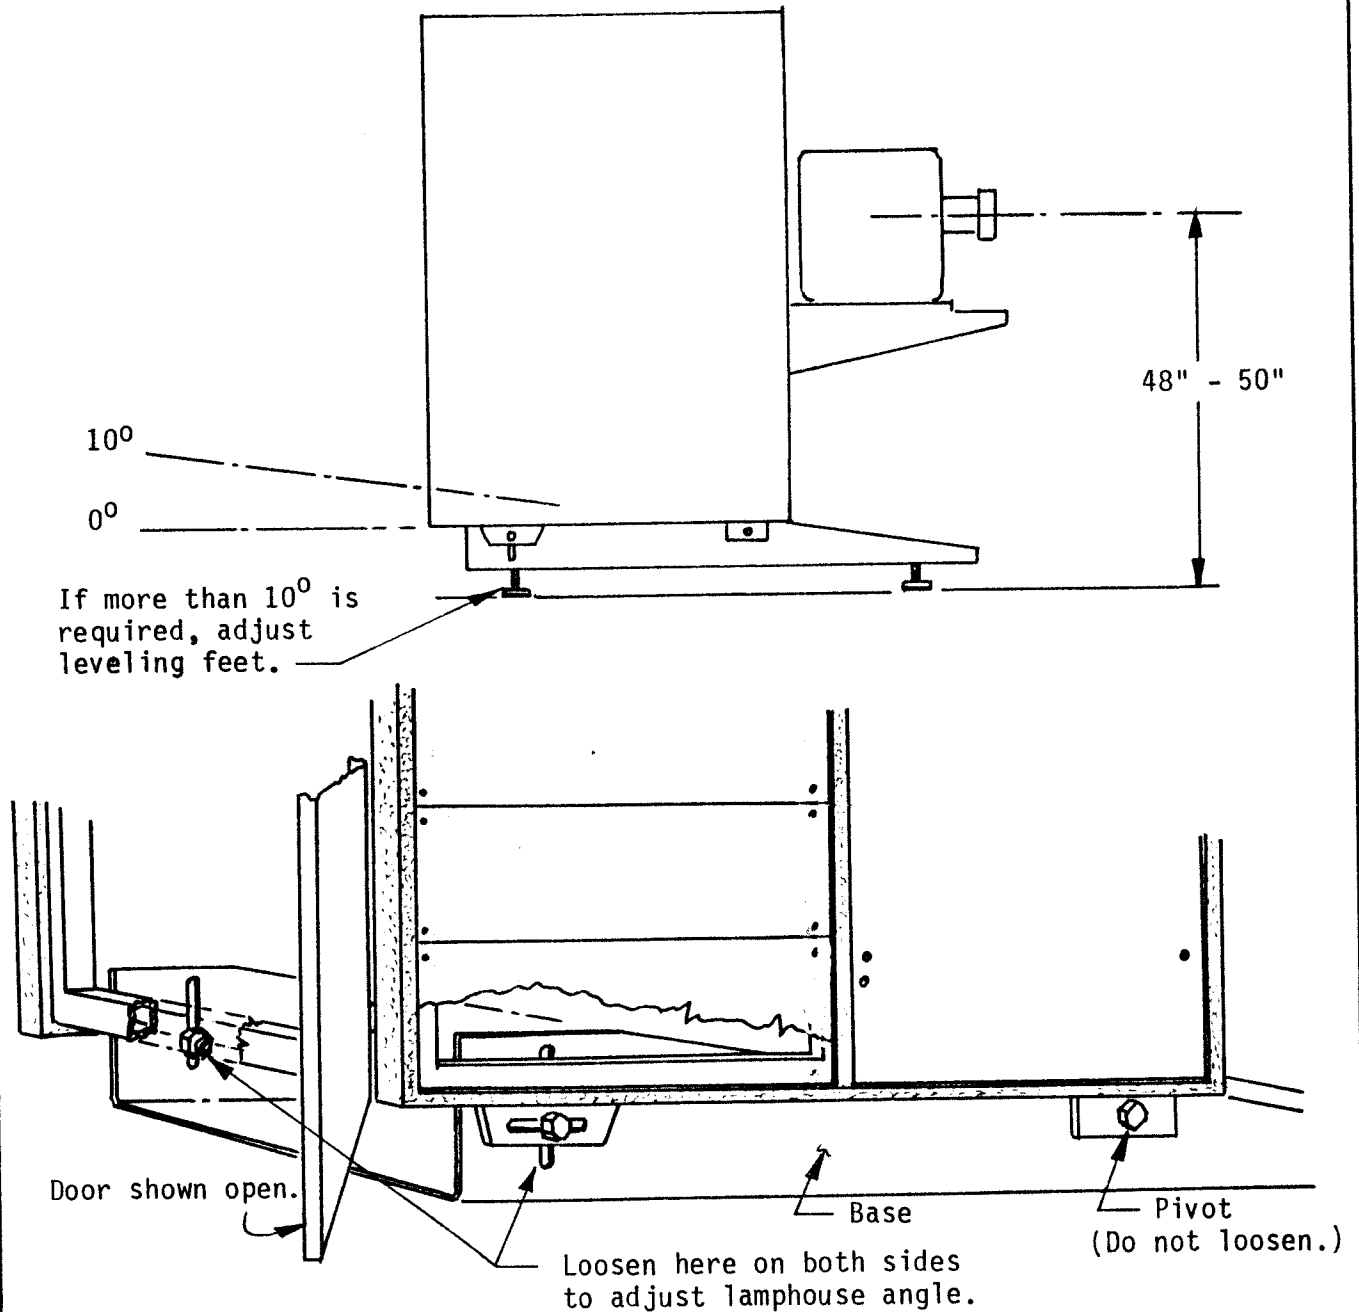

Figure 2-2. Pivot Mechanism Adjustment
b. Open back door and adjust pivot mechanism so console aligns with theater screen. (see Figure 2.2)